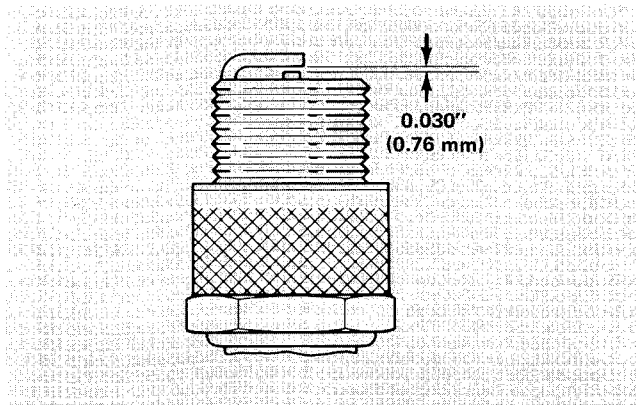

Figure 39
3. Set air gap between electrodes of new spark plug at 0.030 of an inch (0.752 mm) (Fig. 39). Next, install spark plug in cylinder head. Tighten plug to 15 ft-lb (20.4 N·m). If torque wrench is not used, tighten plug firmly.